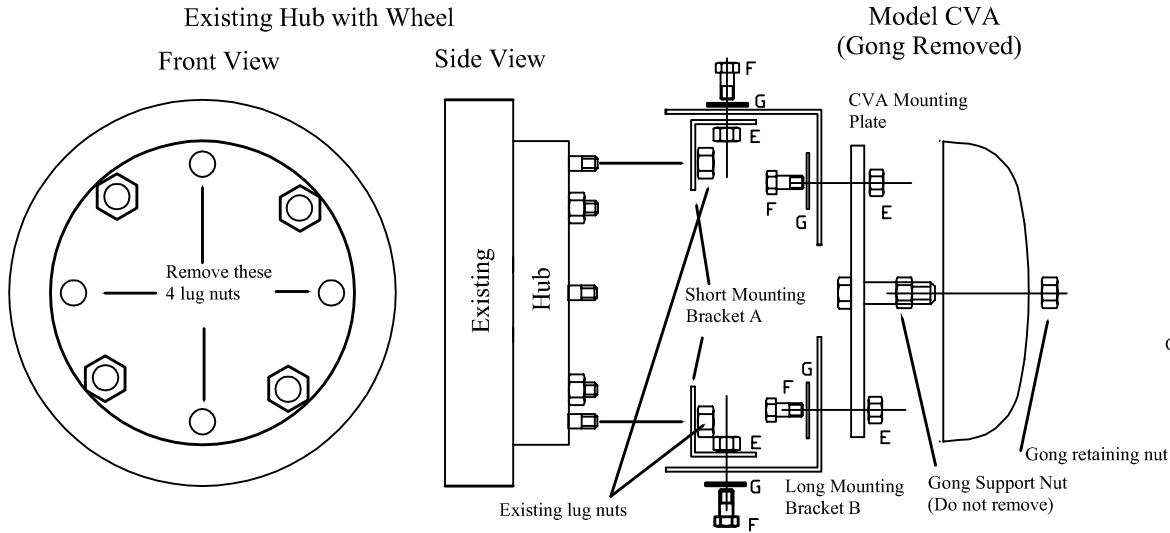

Fig. 2
Installing the Short Mounting Brackets (A) to the existing wheel hub (Fig. 1 and Fig. 2)
- Mount the Short Mounting Brackets (A) following Fig. 1. These brackets will accommodate $\frac{3}{4}$ " diameter lug bolts as is. If you have $\frac{1}{2}$ " lug bolts, use Clamping washer (C) and Filler washer (D). See Fig. 2.
- Replace and hand tighten the lug nuts to lightly hold the Short Mounting Brackets (A) in place.